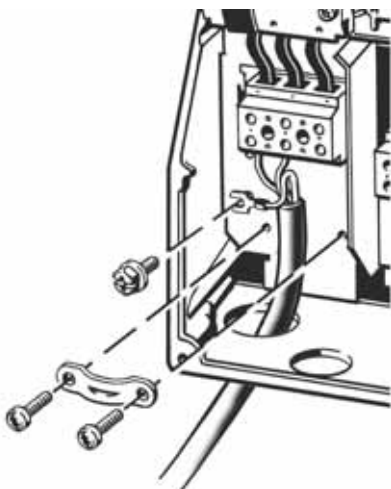

Fig. 33 Mains connection
1. Connect the ground wire to terminal 95 (PE). See fig. 33.